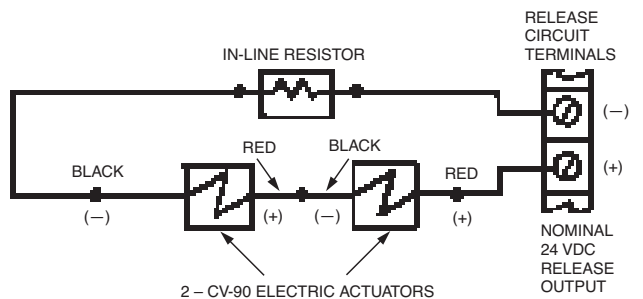

FIGURE 3
- Two CV-90 electric actuators (Part No. 426877) may be wired to the release circuit of an AUTOPULSE microprocessor-based control panel. Figure 3 shows a typical diagram for wiring of two actuators. Polarity must be observed when wiring this circuit. (Always check with the control panel manual for specific details pertaining to release circuit wiring.)